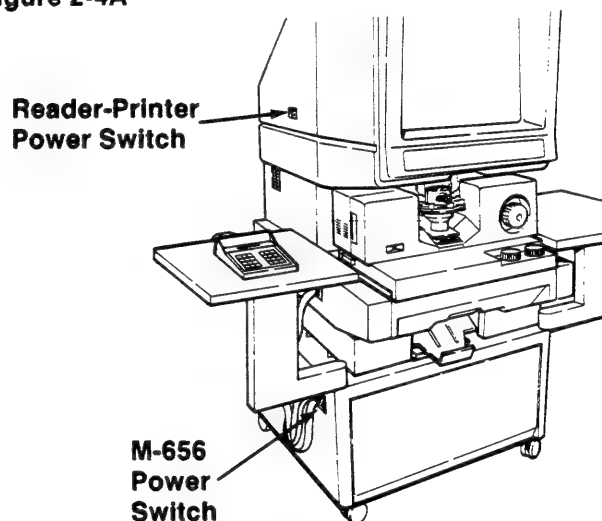

Figure 2-4B
2. Switch ON the M-656 (Figure 2-4B).
3. Switch ON the Reader-Printer (Figure 2-4B).